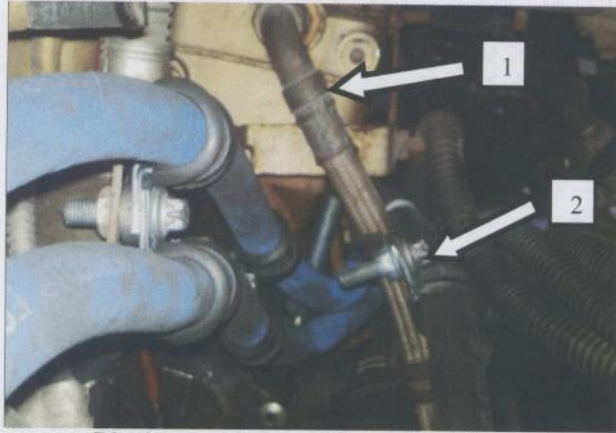

Figure 8 Air Compressor Discharge Line and Power Steering Pressure Line Routing
Note: Discharge line should be routed inside of power steering lines. See Figure 8.
62. Separate the air compressor discharge line (1) from the power steering pressure and suction lines using existing P-clamps (2) and P-clamps from the kit part number 23-11357-02. See Figure 8.